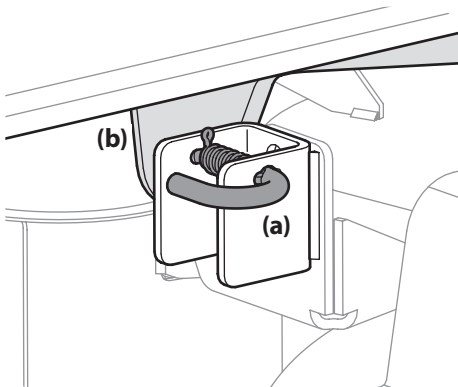

Figure 4-16
7. Locate the LH and RH deck release pins (a) on each side of the deck. Pull the deck release pins (a) outward and release the deck from the LH and RH deck lift arms (b). See Figure 4-16.
4. Pull the deck release pins outward and maneuver the deck as necessary to align the holes in the deck lift arms with the pins. Refer to Figure 4-16.